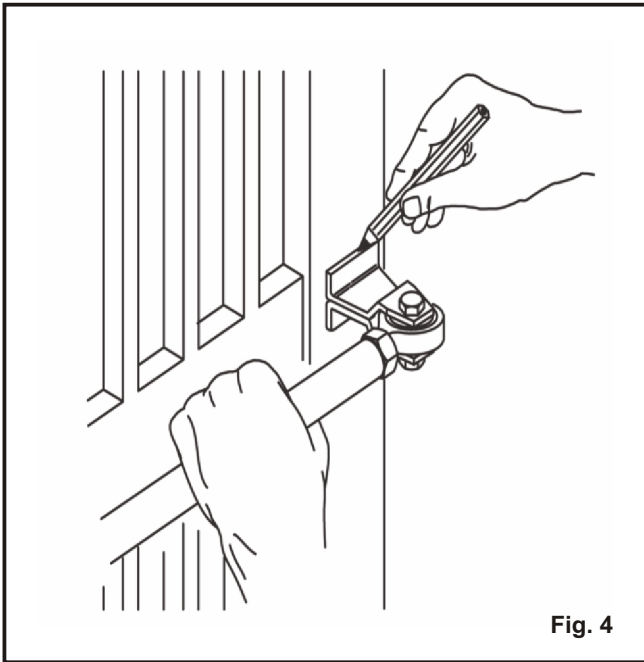

Fig. 4
- G) Install the front end on the stroke (Fig. 4);
H) Close the door of the gate and, keeping the operator in perfectly level position, locate the position of a front on the wing (Fig. 4);